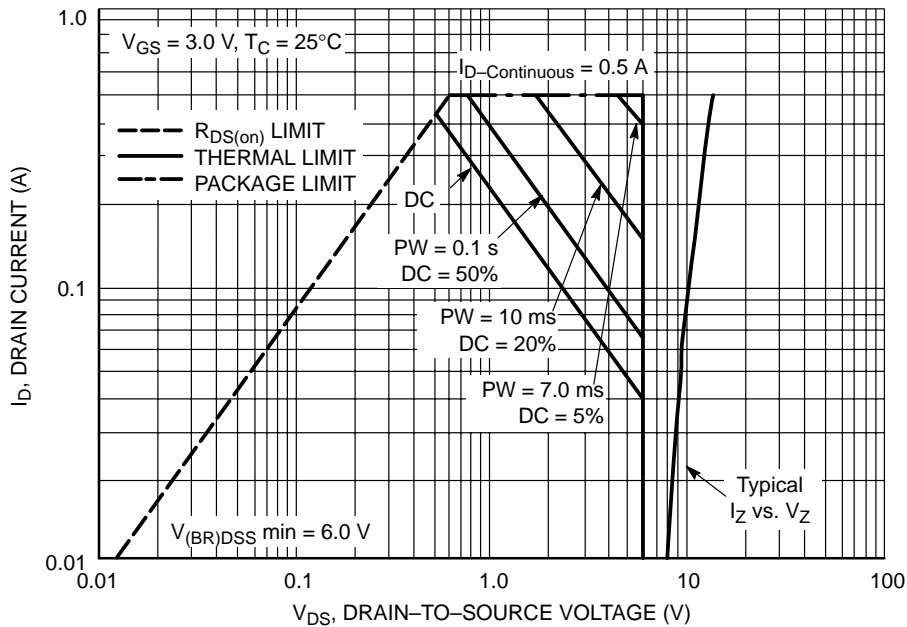

Figure 10. Safe Operating Area
Thus for a 20% duty cycle and a PW = 40 ms, Figure 10 yields $r(t) = 0.3$ and when entered in the above equation, the max allowable $Pd(pk) = 390$ mW for a max $T_A = 85^{\circ}C$.
3. Use Figures 10, 11 and 12 with the SOA notes to insure that instantaneous operation does not push the device beyond the limits of the SOA plot.